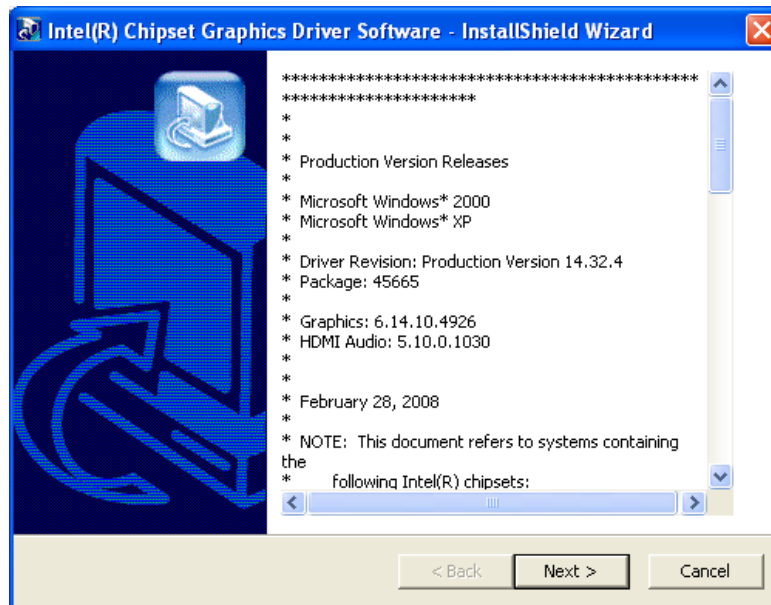

Figure 7-7: Graphics Driver Read Me File
Step 4: The **Read Me** file in **Figure 7-7** appears.